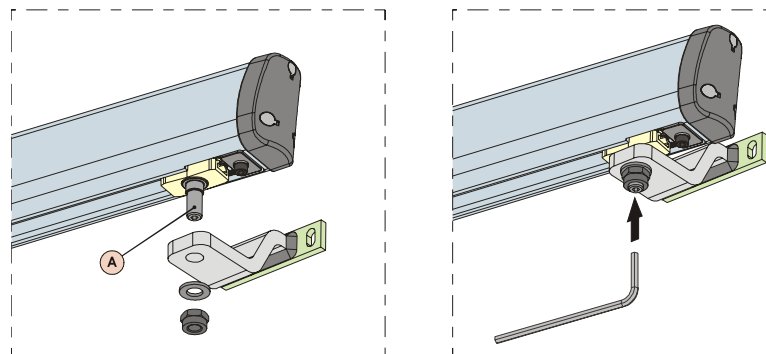

Fig. 11
4) Assemble the front bracket as shown in Fig.11. A hexagonal seat is located in the lower part of the fitting CH=5 (Fig.11 ref. A) to make the assembling operations easier.